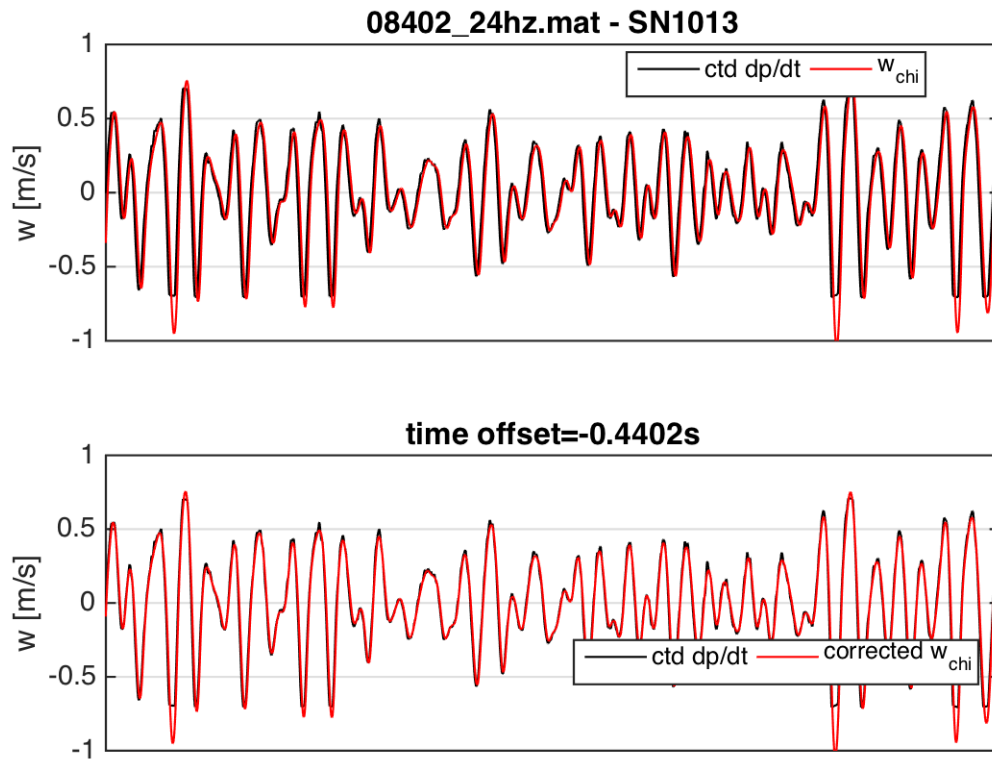
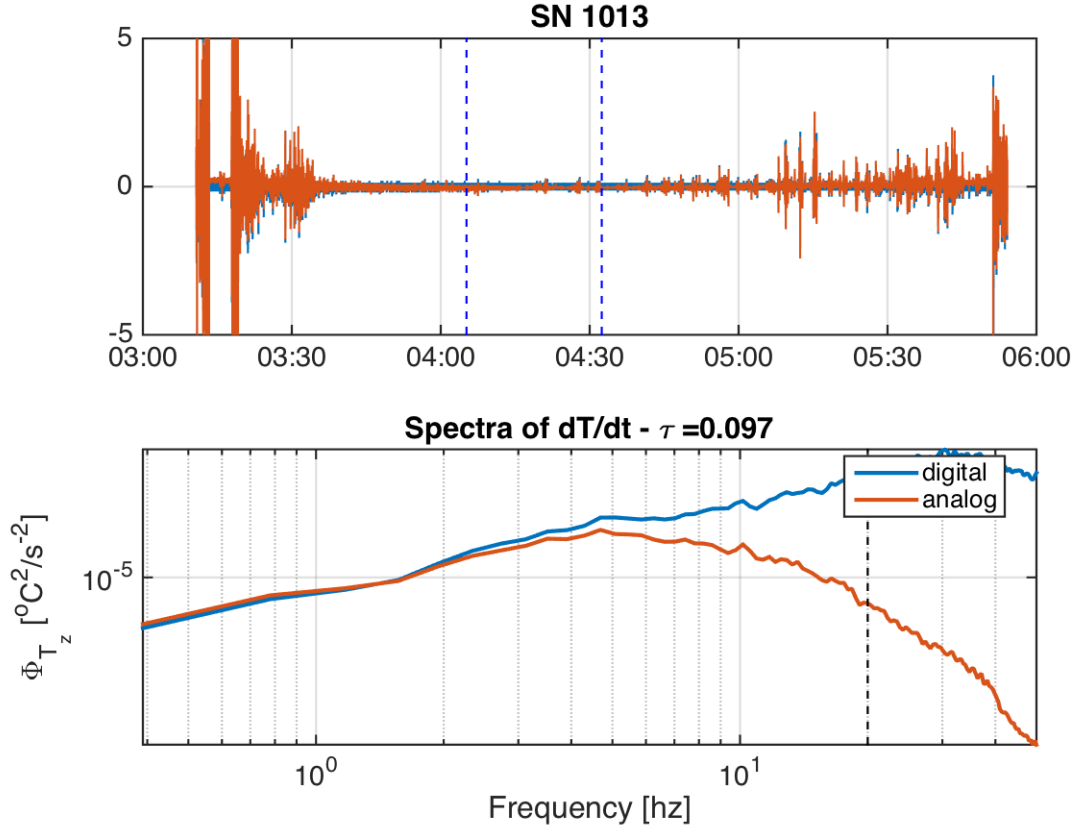
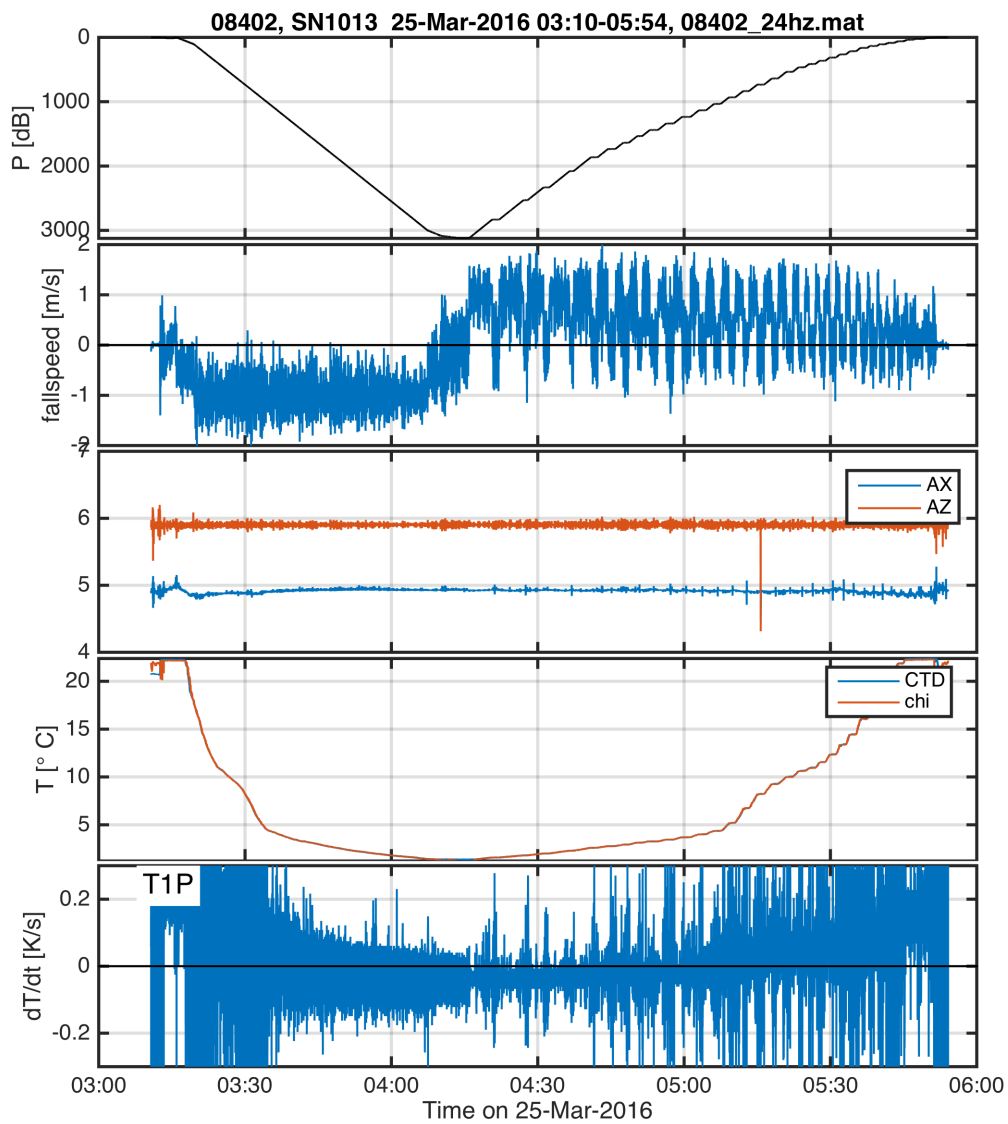
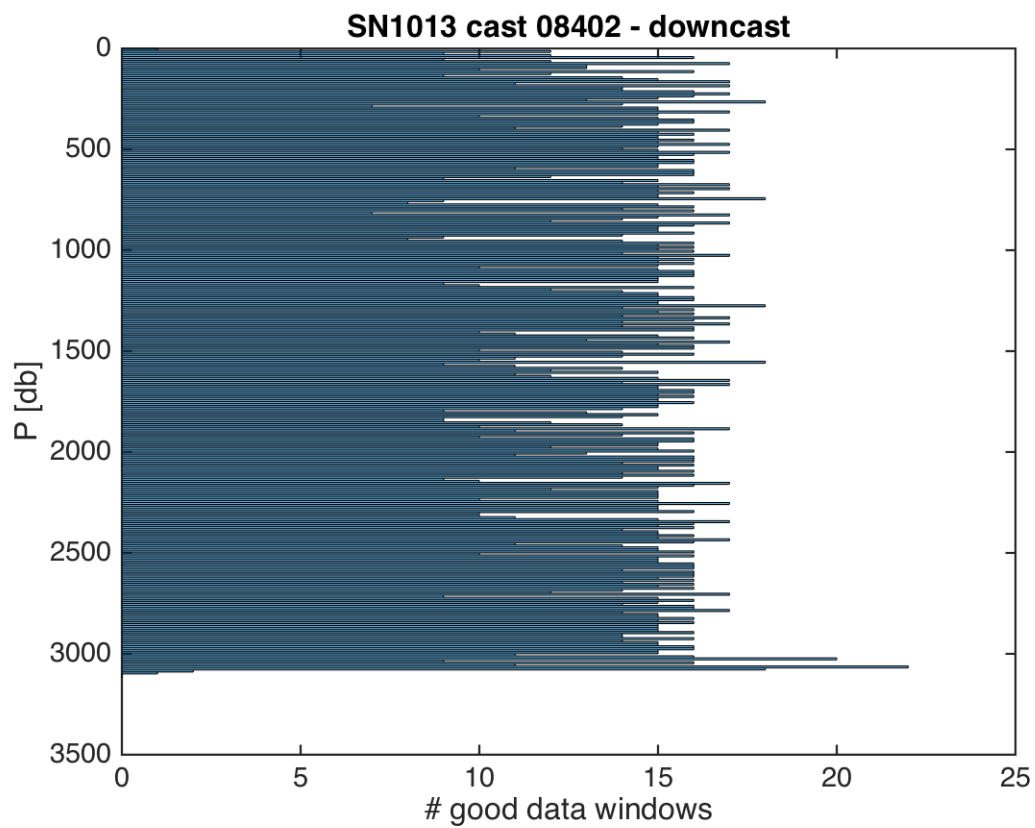

Figure 4: Zoom-in of previous plot allowing one to check if time-offset is correct. Bottom panel should match.
Figure 5:  $dT/dt$  spectra for analog (TP) and digital derivatives. Spectra levels should match; if not time-constant may be wrong.
Figure 6: Time series of aligned and calibrated  $\chi$ pod data for one cast.
Figure 7: Histogram of the number of good  $\chi$ pod data windows in each 10m depth bin.
- `castname_Fig3_w_TimeOffset_Zoom` (Figure 4). Shows a zoomed-in period of the time-offset. The two timeseries should match in the lower panel.
- `castname_Fig4_w_dTdtSpectraCheck` (Figure 5). This compares the analog  $dT/dt$  (T1P) to the differentiated T signal. The spectral amplitudes should agree up to a certain frequency where the digital  $dT/dt$  becomes dominated by noise. If the spectra below the noise level don't match, the time-constant used in calibration might need to be modified.
- `castname_Fig5_T_P_dTdz_fspd` (Figure 6). Summary of the aligned and calibrated data.
- `castname_Fig6_downcast_chi_T1_avgPhist` (Figure 7).
- `castname_Fig7__upcast_chi_SN600_T1_avg_chi_KT_dTdz` (Figure 8). Summary of the final data ('avg' structure).